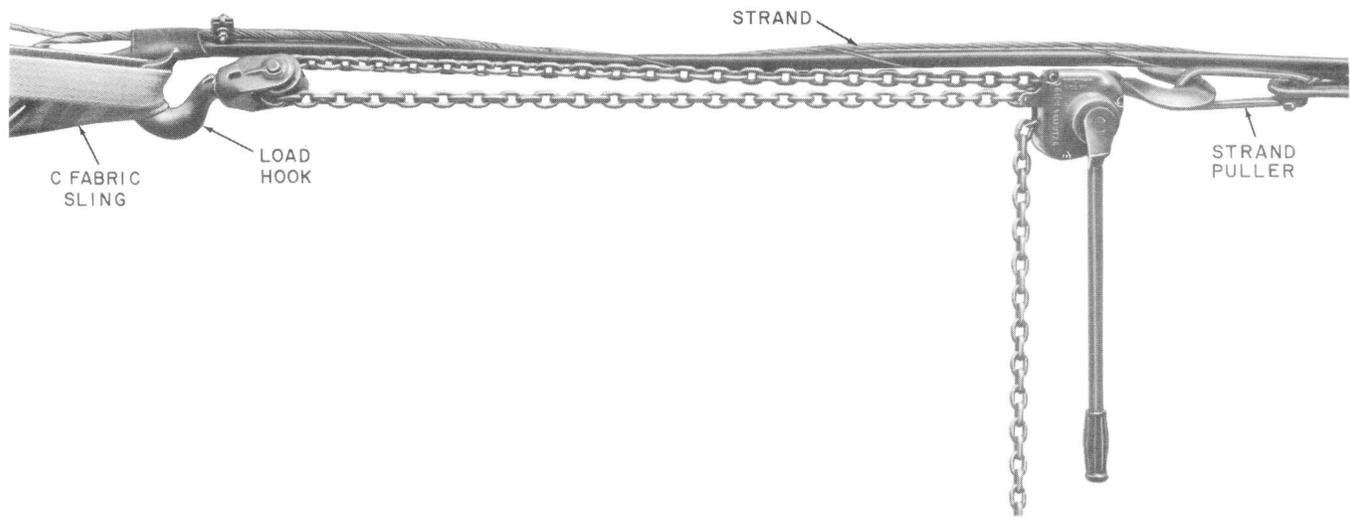

Fig. 5—Horizontal Position
4.05 When using in the horizontal position, install hoist as shown in Fig. 5 with the flat surface of the housing toward the cable, strand, or wire.